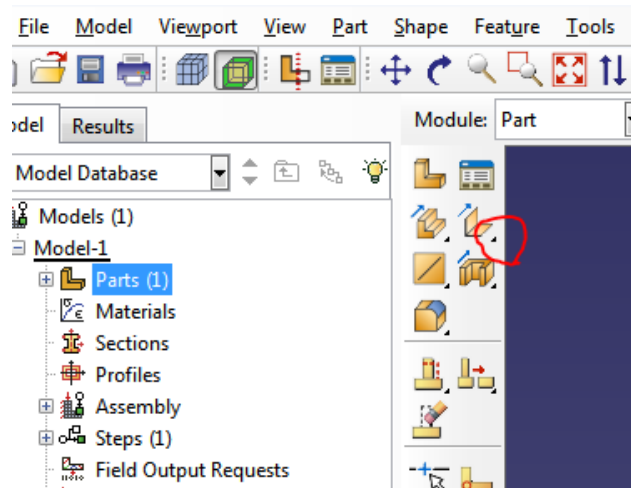

Figure 3. The small black triangle needed to find the **Create Shell: From Solid** tool
3. Convert the solid part to a shell model by the **Create Shell: From Solid** tool. The tool can be found by pressing the small black triangle marked by a red circle in Figure 3.